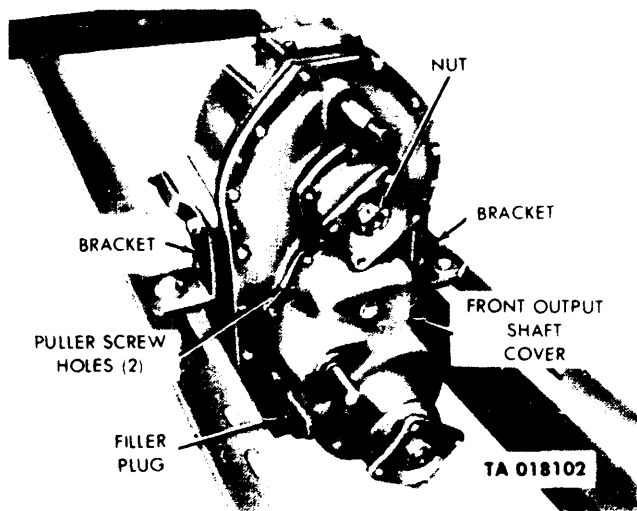
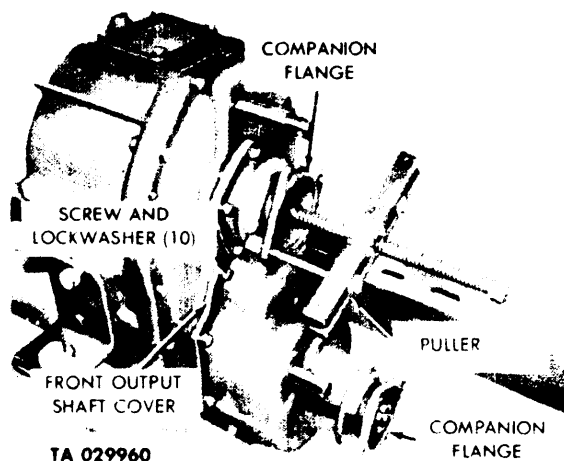
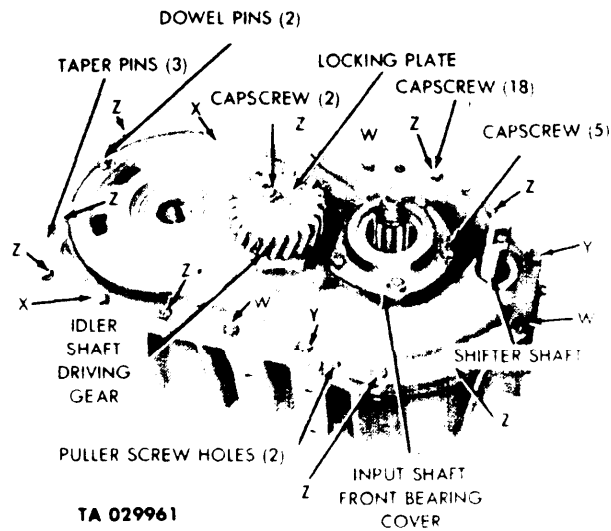

Figure 4-29. Transfer Mounted on Overhaul Stand,
Figure 4-30. Companion Flanges — Removal.
Figure 4-31. Removal of Transfer Covers.
b. *Installation of Transfer on Overhaul Stand.* Install transfer on overhaul stand using brackets. (See fig. 4-29.)
c. *Draining.* Remove transfer case magnetic drain plug (fig. 4-27) and front output shaft cover filler plug (fig. 4-29) and drain transfer lubricant into a suitable container. Inspect magnetic plugs for chips.
(1) Using a puller (item 4, table 2-1), remove input shaft companion flange. (See fig. 4-30.)
(2) Using a puller (item 4, table 2-1), remove front output shaft companion flange. (See fig. 4-30.)
Remove the 10 capscrews and lockwashers securing the front output shaft cover to the transfer case cover. (See fig. 4-30.) Install puller screws into the two puller-screw holes (fig. 4-29) in the flange of the front output shaft cover. Pull the cover assembly from the dowel pins (fig. 4-31) on the transfer case cover. Remove puller screws and discard gasket.
Remove the five capscrews and lockwashers from the input shaft front bearing cover and cover gasket. (See fig. 4-31.) Using a suitable tool, remove the oil seal cover.
Bend locking plate tabs away from two capscrews. Remove the two capscrews securing the idler shaft driving gear to the idler shaft. (See fig. 4-31.) Remove the idler shaft gear.
(1) Polish the end of the shifter shaft to remove roughness and paint. (See fig. 4-31.) Remove the 18 capscrews, nuts, and lockwashers securing the case cover to the case. Remove the three taper pins from the case and cover, with a drift or punch.
(2) Install puller screws in the two puller-screw holes located in the flange of the case cover. (See fig. 4-31.) If necessary, drive on the end of the input shaft and tap on the end of the shifter shaft with a mallet. Lift the cover assembly from the case. Remove and discard the gasket. Remove the outer thrust washer from the input shaft.